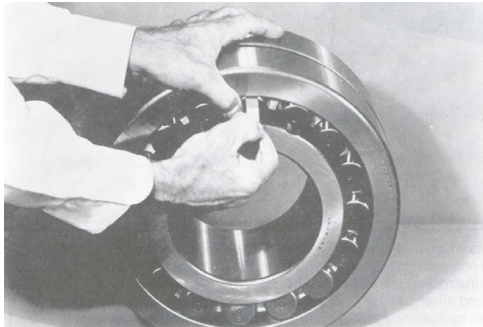

Figure 1 - Internal clearance
1. Measure the internal clearance of the bearing before mounting. Place the bearing in a upright position as shown in Figure 1.